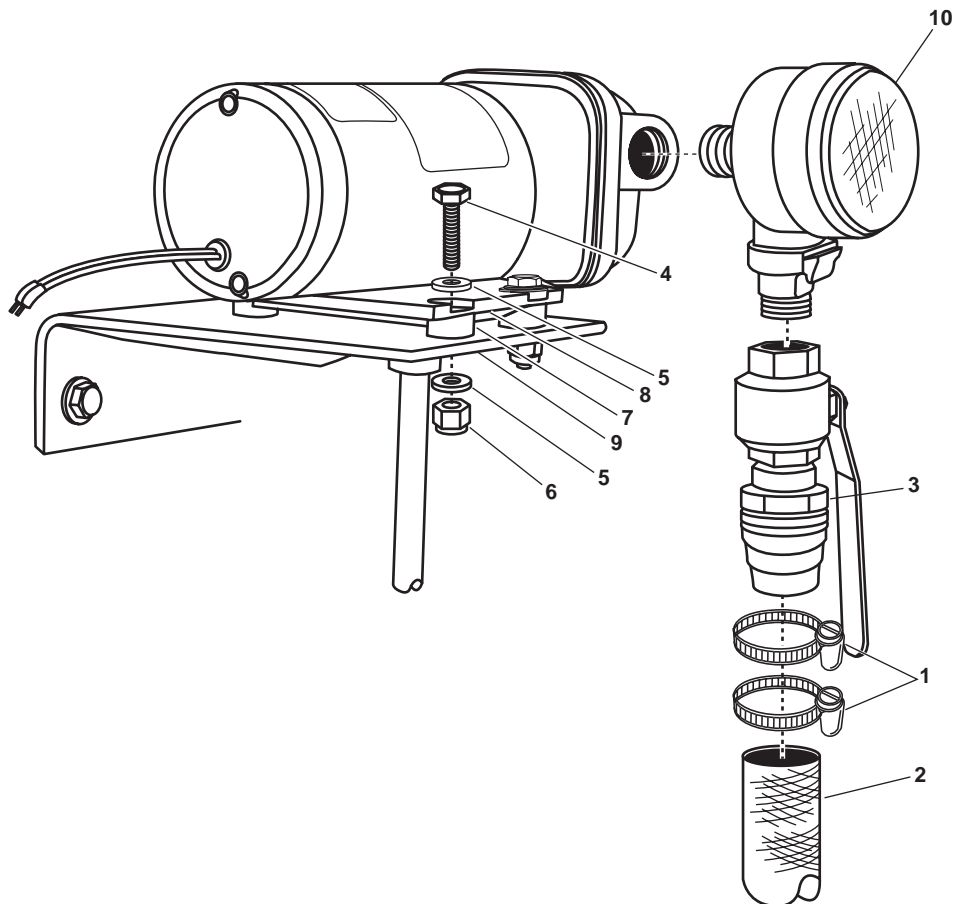

Figure 2. Fresh Water Flush Pump (Inlet Side)
5. Loosen the hose clamps (figure 2, item 1) on the inlet hose (figure 2, item 2).
6. Disconnect the hose (figure 2, item 2) from the inlet fitting (figure 2, item 3).
8. Remove four bolts (figure 2, item 4), eight flat washers (figure 2, item 5), four nylock nuts (figure 2, item 6), and four rubber grommets (figure 2, item 7) that secure the pump (figure 2, item 8) to the foundation (figure 2, item 9). Discard the nyloc nuts.
9. Remove the fresh water flush pump (figure 2, item 8).
11. Remove the inlet strainer (figure 2, item 10) from the fresh water flush pump (figure 2, item 8)
2. Install the inlet strainer (figure 2, item 10) on the fresh water flush pump (figure 2, item 8).
4. Place the fresh water flush pump (figure 2, item 8) on the foundation (figure 2, item 9), and secure it in place with four bolts (figure 2, item 4), eight flat washers (figure 2, item 5), 4 rubber grommets (figure 2, item 7) and four new nylock nuts (figure 2, item 6).
5. Install the inlet hose (figure 2, item 2), and secure it with the hose clamps (figure 2 item 1).